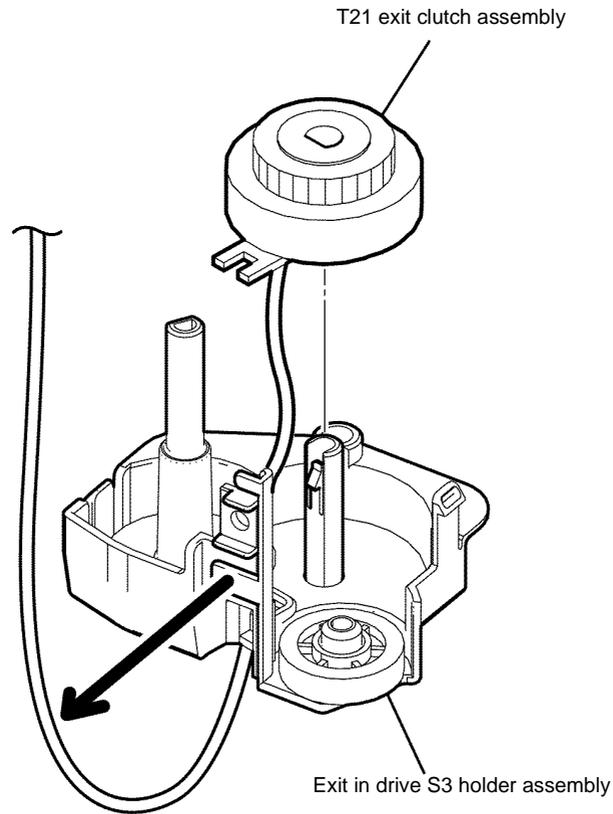

Figure 4 T21 exit clutch assembly removal
17. Release the hook on the shaft, and then remove the T21 exit clutch assembly, Figure 4.